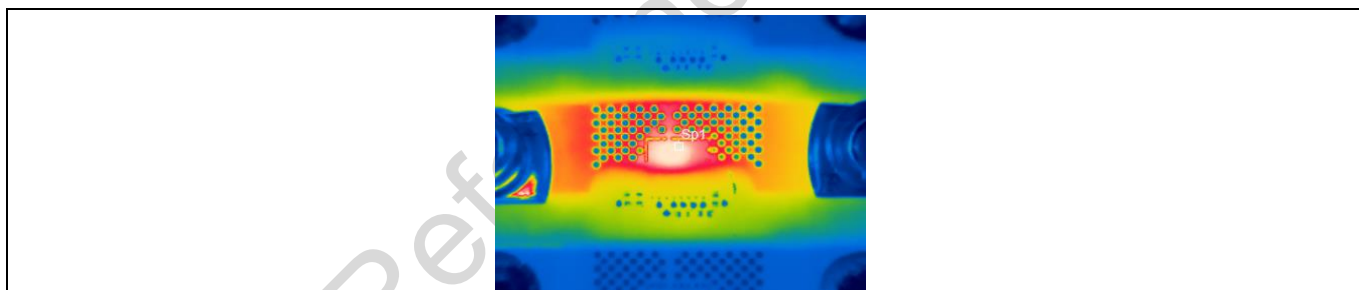

Figure 14 TLI4971 temperature distribution at 50A; (46.7°C package temperature)
- Figure 14 shows the infrared picture of the TLI4971 on the v-phase at the reference board. The good thermal conductivity between the sensor element and the PCB gives the advantage that the system can get cooled down by the periphery.